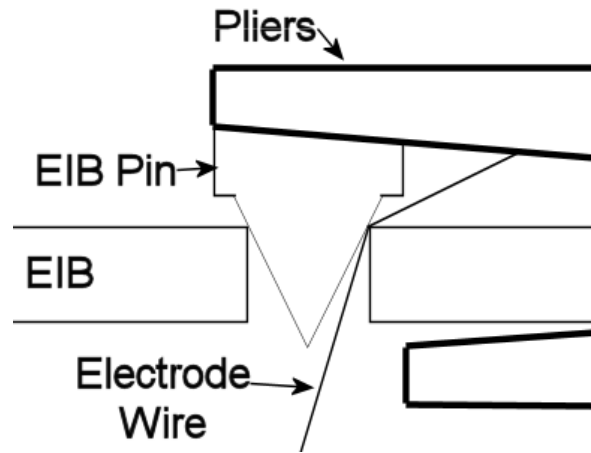

Figure 3-3 Cinch Pin into the EIB hole
5. Cinch the pin into the EIB Hole with the pliers as shown in Figure 3-3 Cinch Pin into the EIB hole.